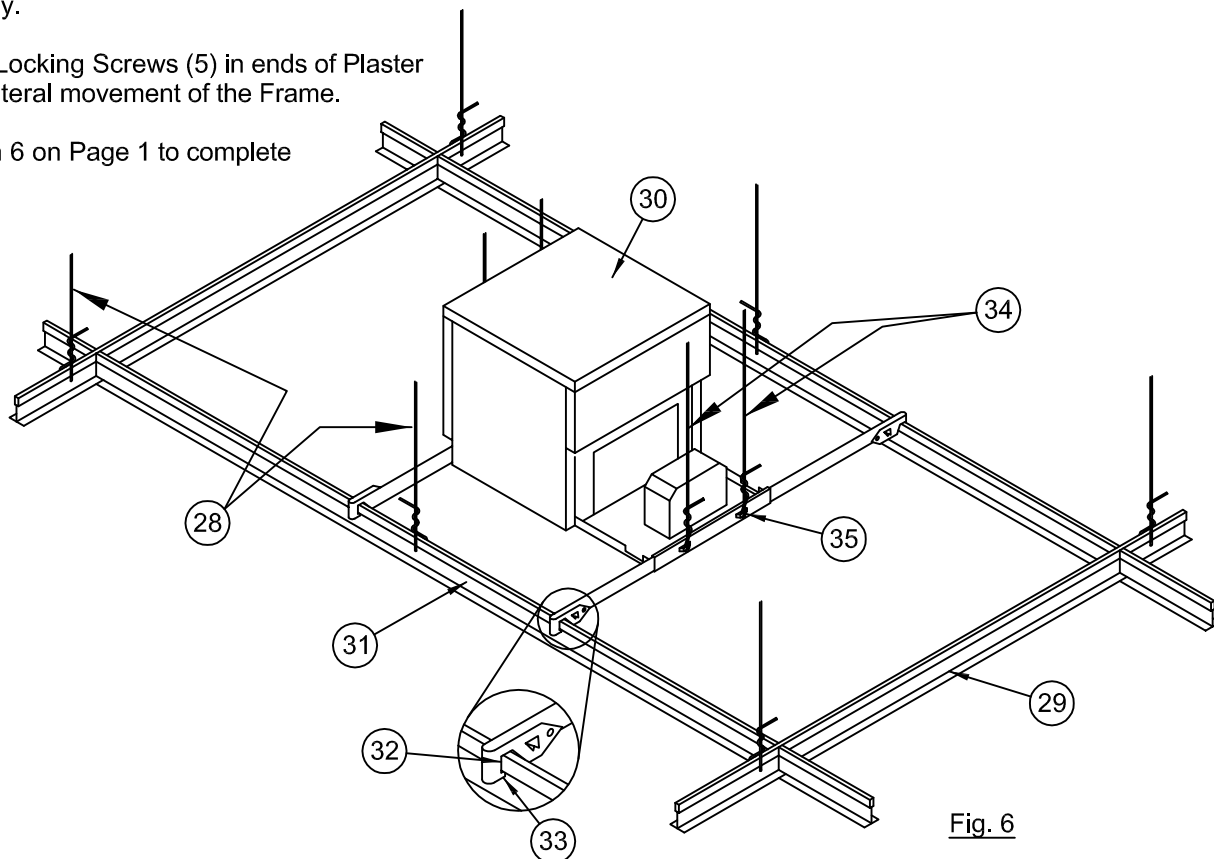
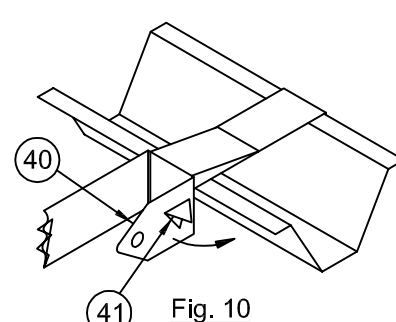

Fig. 6
Fig. 10
3. Once all Brackets are in place bend Hanger Bar End (40) around to secure Brackets to the Channels as shown in Figure 10. **NOTE:** Nail Tab (41) should lodge under edge of Furring Channel.
4. Tighten bar hanger Locking Screws (5) in ends of Plaster Frame (2) to prevent lateral movement of the Frame.
5. Install two No. 12 SWG Galv. Steel Hanger Wires (34) secured to each end of Luminaire (30) plaster frame at Lanced Openings (35) in hanger bar support channels. Steel Hanger Wires to be installed vertically and secured to structural members of floor or roof assembly. (See Fig. 6)